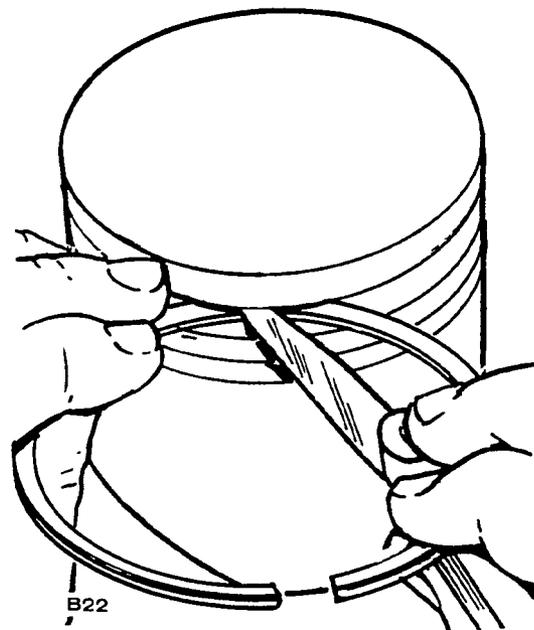

FIGURE 15. CHECKING RING SIDE CLEARANCE
1. Inspect the pistons for fractures at the ring lands, skirts and pin bosses. Check for wear at the ring lands using a new ring and feeler gauge as shown in Figure 15. Replace the piston when the side clearance of the top compression ring exceeds that specified in *DIMENSIONS AND CLEARANCES*.